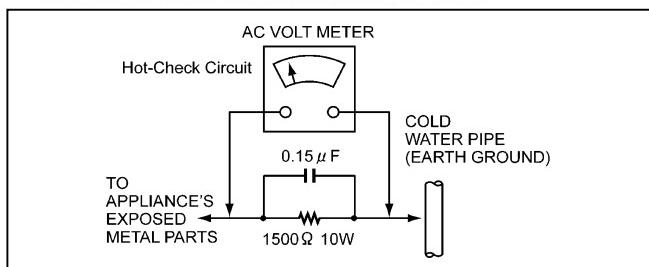

Figure1
## LEAKAGE CURRENT HOT CHECK (See Figure 1)
2. Connect a  $1.5K\Omega$ , 10W resistor, in parallel with a  $0.15\mu F$  capacitor, between each exposed metallic part on the set and a good earth ground such as a water pipe, as shown in Figure1.